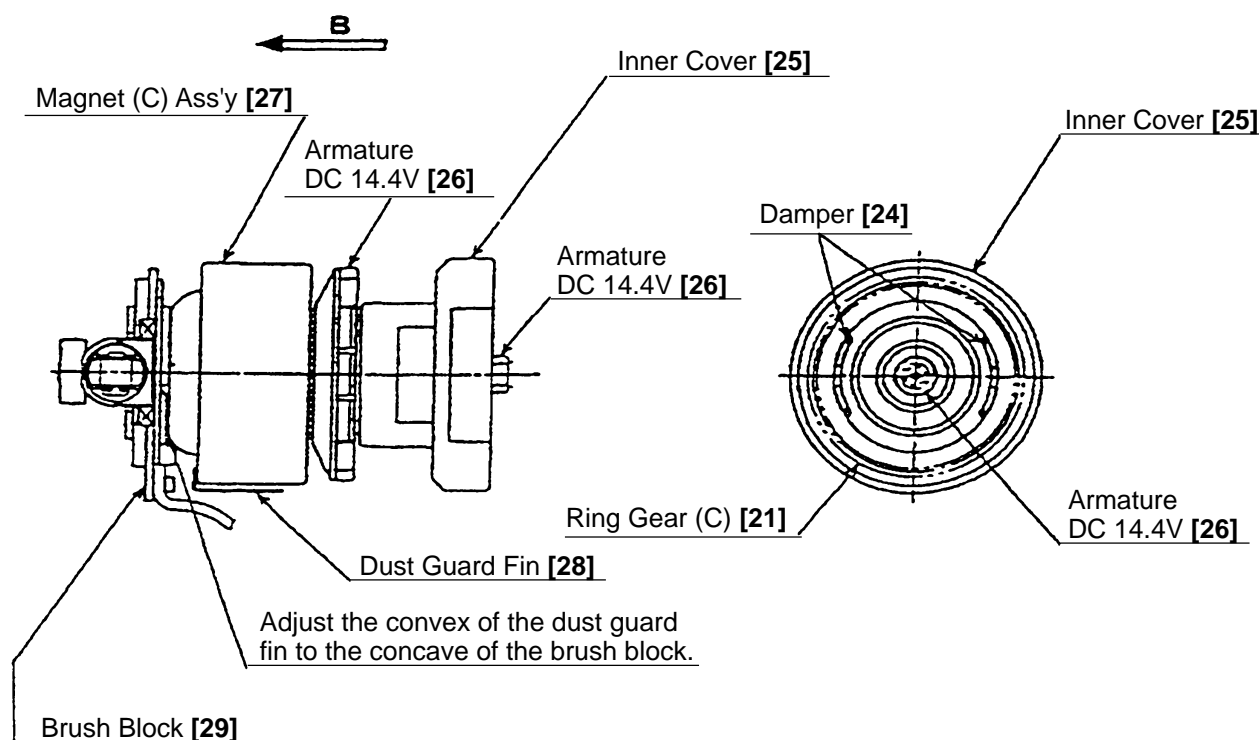

Fig.8
(10) Removal of Magnet (C) Ass'y [27] and the Dust Guard Fin [28] and Washer (M) [51]
Remove Magnet (C) Ass'y [27] in the "B" direction (see Fig. 8) holding the Inner Cover [25] securely because Magnet (C) Ass'y [27] has a strong magnetism. The Dust Guard Fin [28] and Washer (M) [51] can be easily removed from Magnet (C) Ass'y [27] by pulling it in the "B" direction (see Fig. 8) because it is mounted to Magnet (C) Ass'y [27] magnetically.